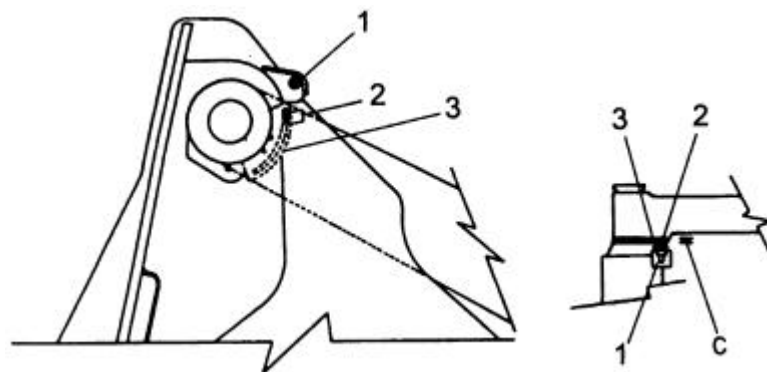

Fig. 4.26. Automatic Boom Kick Out
4.18.2. AUTOMATIC BOOM KICK-OUT (FIG. 4.26.)